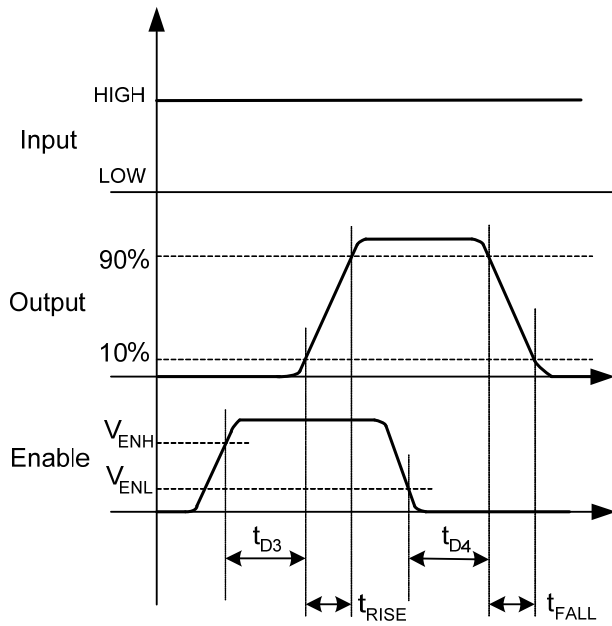
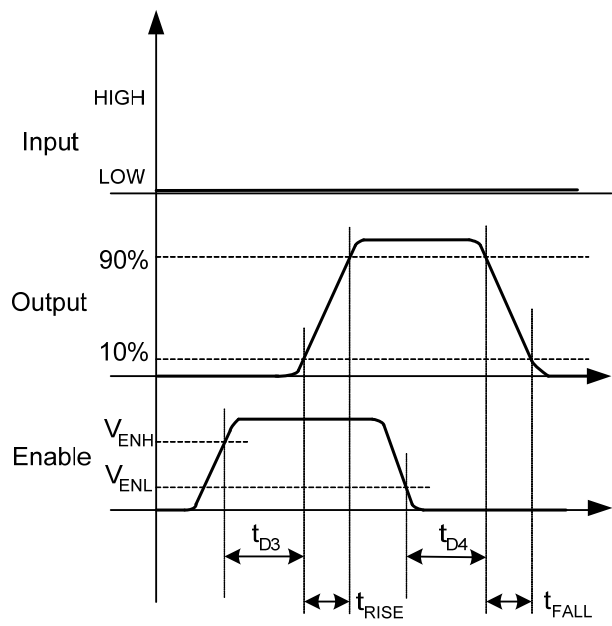

Figure 11. Non-Inverting (IN HIGH)
Figure 12. Inverting (IN LOW)
- 11. See Timing Diagrams of Figure 11 and Figure 12.